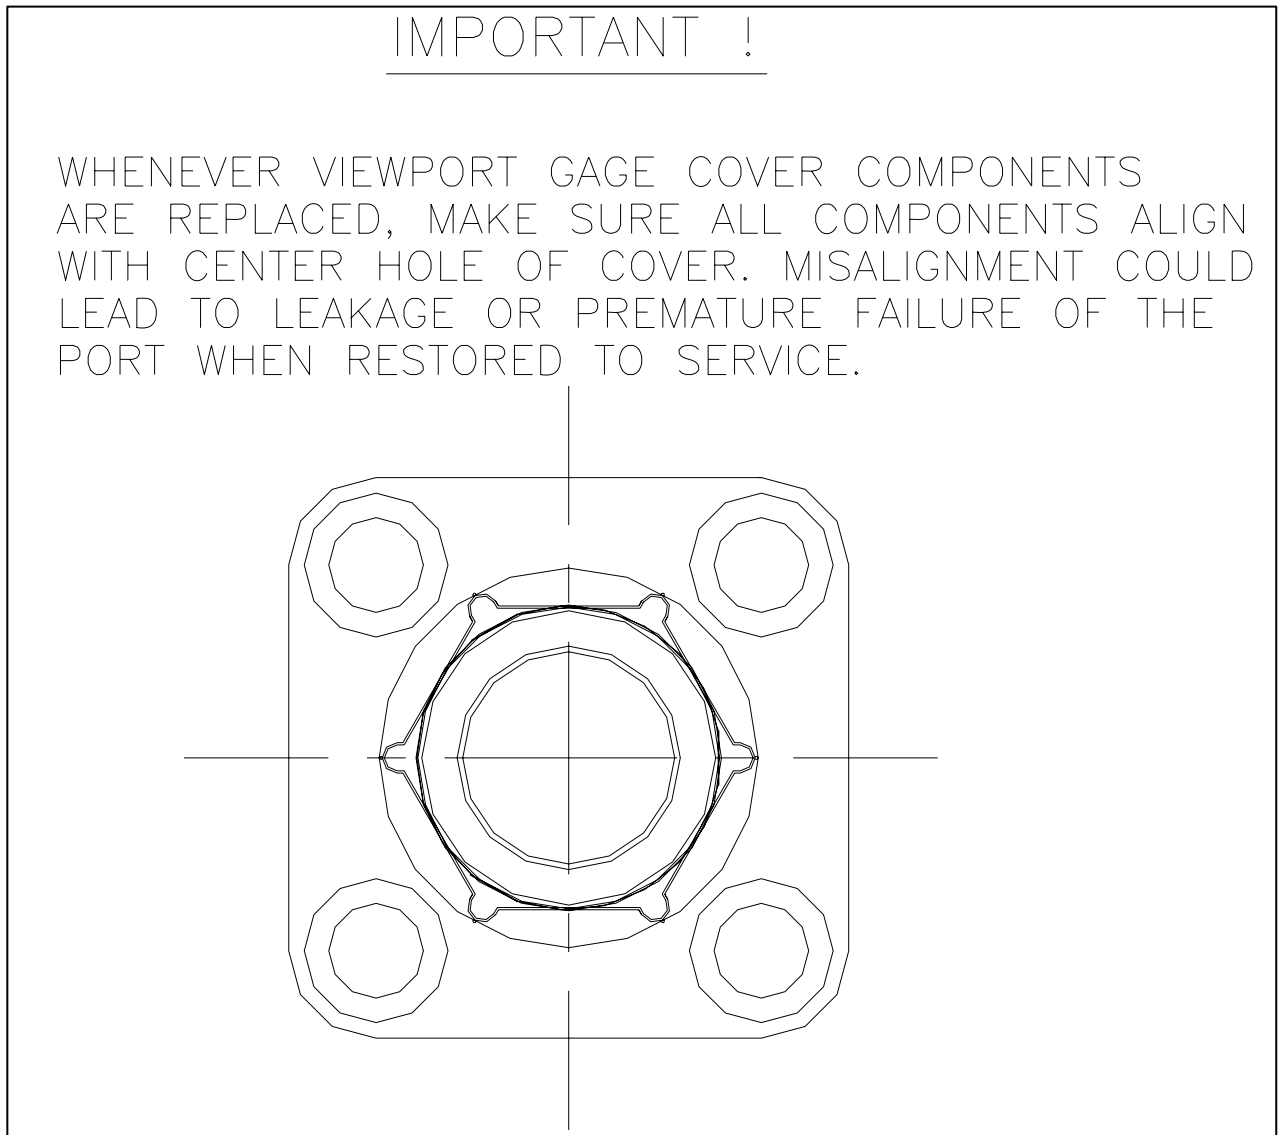

Figure 4 - Port Hole Alignment
6. Taking the repair kit as an assembly (glass, mica, sealing gasket, clip ring) insert it directly into the retaining spring and into contact with the cushion gasket (6). See Figure 3B and Figure 4.
7. Inspect for assurance of proper assembly and clean parts. The sealing gasket (11) should be firmly centered in the clip ring (7).